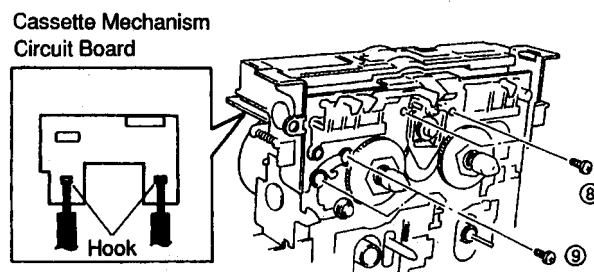

Fig. 8
- a. Remove 2 screws (⑧) in Fig. 8 and then remove the Capstan Motor.
b. Remove 2 screws (⑨) in Fig. 8 and detach 2 hooks of the Cassette Mechanism Circuit Board, then remove the Reel Motor.